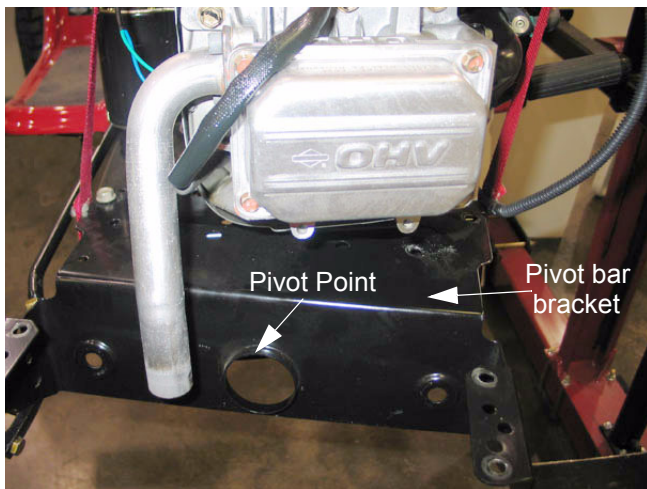

Figure 16.14
16.14. Remove the front screws only. Loosen the rear screws. This will allow the bracket to pivot forward, freeing the pivot bar from the frame. See Figure 16.14.